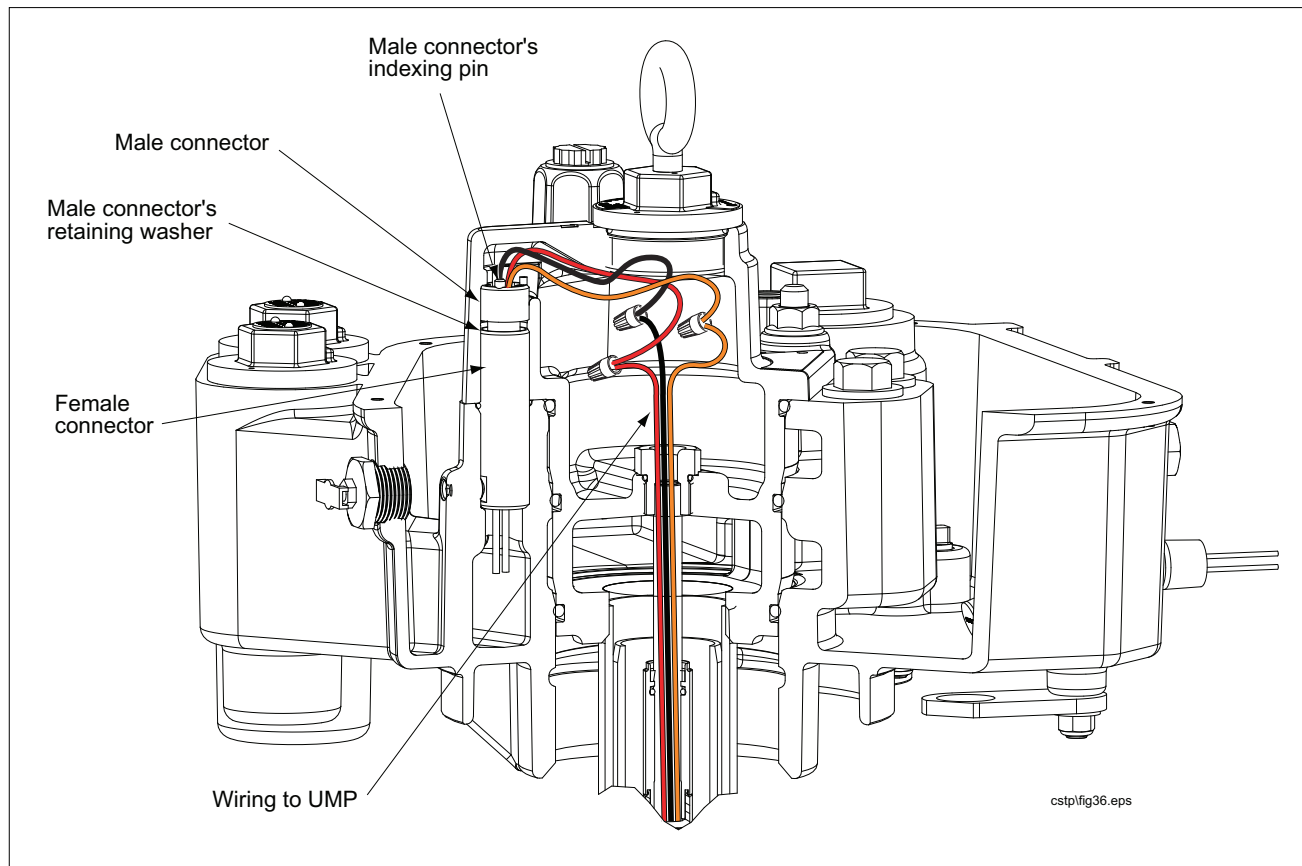

Figure 40. Packer-to-Manifold Wiring Connectors
10. Locate the male connector inside the packer (see Figure 40).